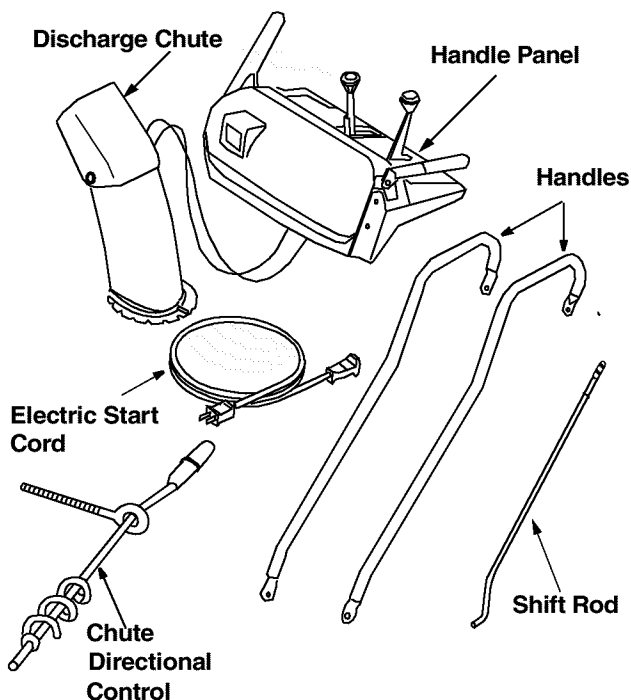

Figure 1
(See Figure 1.)
- g. Owner's Manual (not shown in Figure 1)